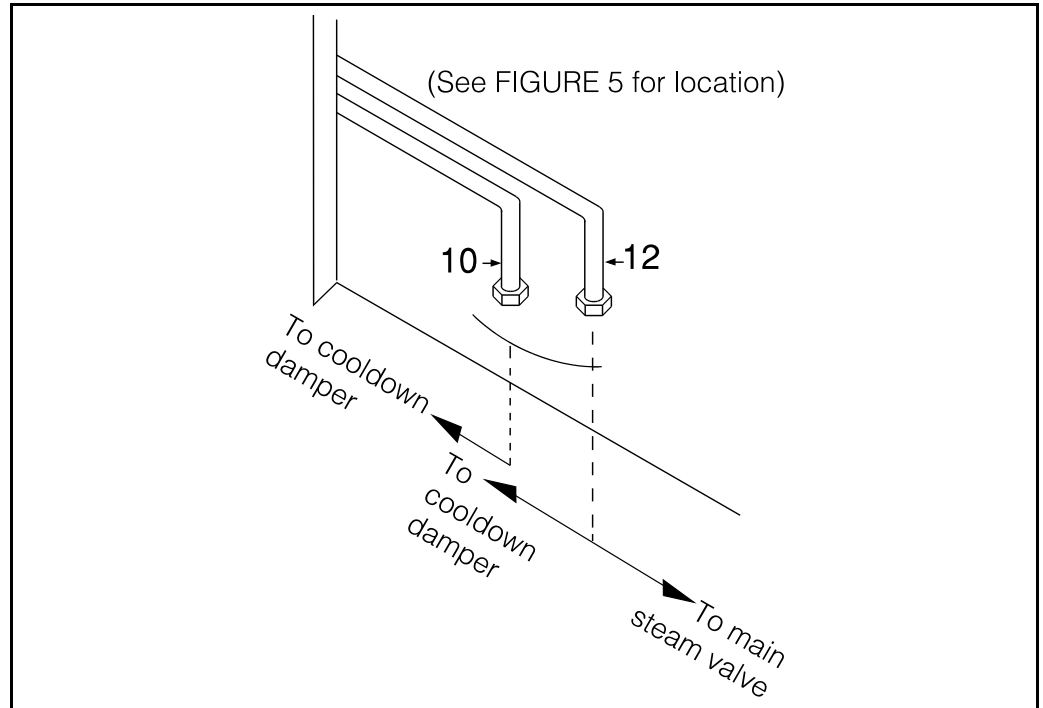

FIGURE 12 (MSIN0108AE)
- 3a.** For steam dryers, make the pneumatic connections (located at Pneumatic Connections) as shown in FIGURE 12.